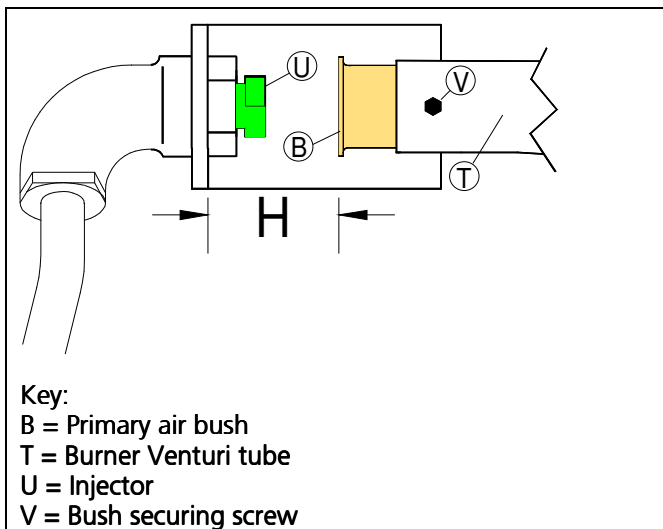

Fig. 6
3.4 Injector replacement and adjustment of primary air (Fig. 6)